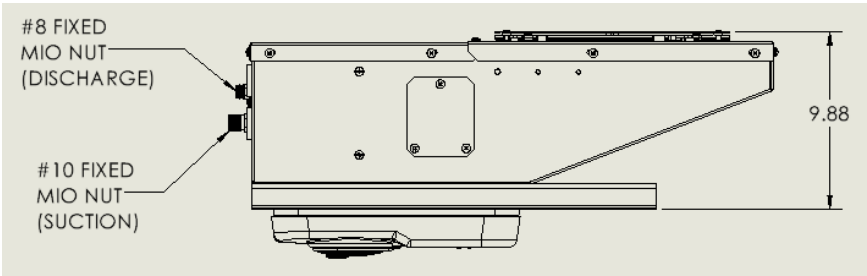

Figure 2 Side view 47-7052-1190/2190
- b. Unit hose connections are shown in Figure 2 Side view 47-7052-1190/2190